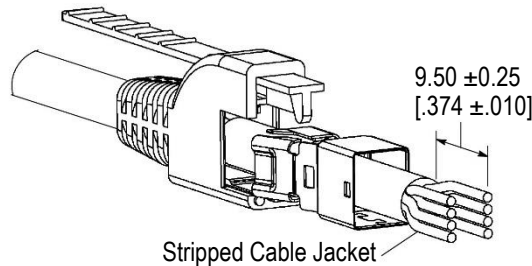

Figure 2
Prior to stripping the cable, make sure to slide the strain relief and shell onto the cable and away from the stripping area. See Figure 2.
1. Strip the cable jacket to 9.50 ± 0.25 mm [0.374 ± 0.010 in.] as shown in Figure 2.